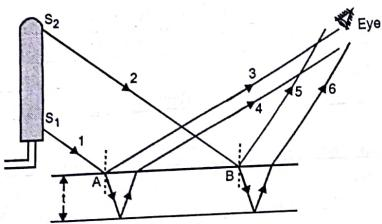

Fig. 1.6.2
- If an extended source of light is used as shown in Fig. 1.6.2, the ray 1, after reflection from the upper and lower surfaces of the film emerges as 3 and 4 which reach the eye.